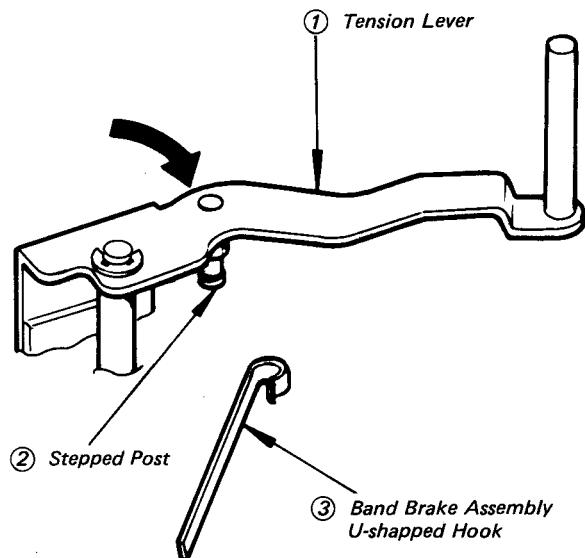
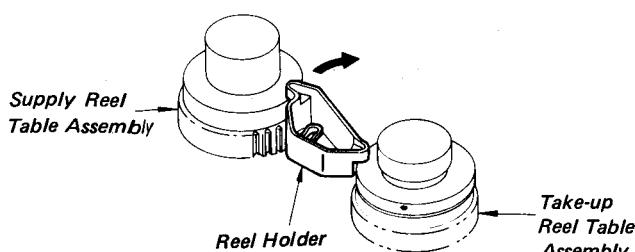

Fig. 5-37 Band Brake Removal
Fig. 5-39 RF Lever Holder Detaching
3. Turn the FR lever holder in the arrow direction (↗) (see Fig. 5-39).
4. Press the tension lever ① on the vicinity of its root so as to turn a little in the arrow direction (↖).
5. Detach the U-shaped hook of the band brake assembly ③ from the stepped post ② (see Fig. 5-37).
5. Turn the reel holder in the arrow direction ( $\curvearrowright$ ) in Fig. 5-39.
1. Return the FR lever to the original position (Fig. 5-39).